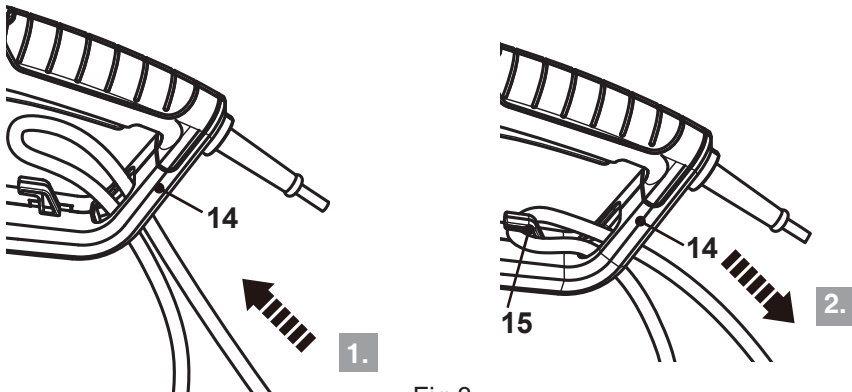

Fig.3
1. Double the extension cord back, about 30 cm from the end and lead the loop through the hole of the rear safeguard (14) (Fig. 3, step 1).
2. Pull it over the cord retainer (15) and gently tug on the cord to ensure that it is firmly secured (Fig. 3, step 2).